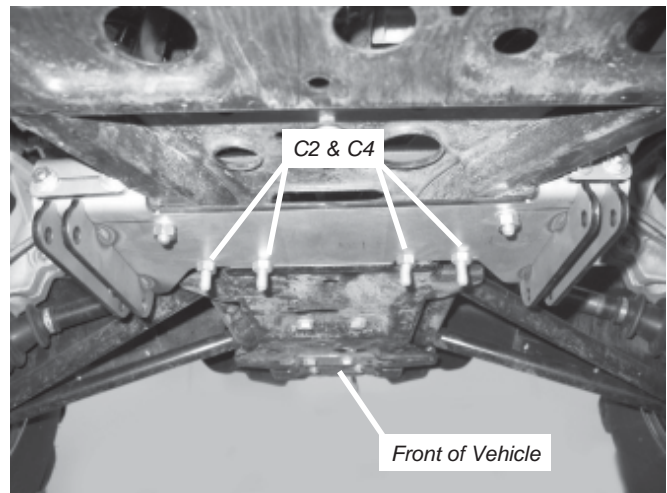

Figure 2 Install U-Bolts on Plow Mount
5. Slide two 5/16" dia x 1-1/4" wide square U-bolts (C2) over the top of the square tubing of the ATV frame and through the plow mount. Terminate the ends of the U-bolts with a 5/16" dia nylock nut (C4) as shown in figure 2. Tighten the nuts to a recommended torque of 14 ft-lb.